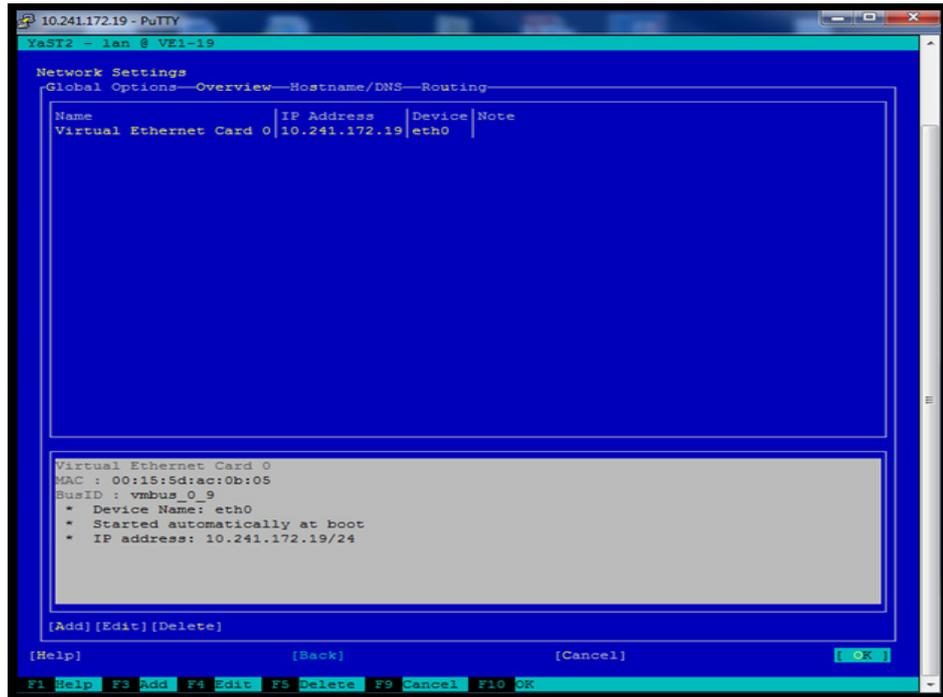

Figure 151 Network Settings screen
5. Press **Enter**. The Network Settings screen appears, as shown in Figure 151 on page 124.